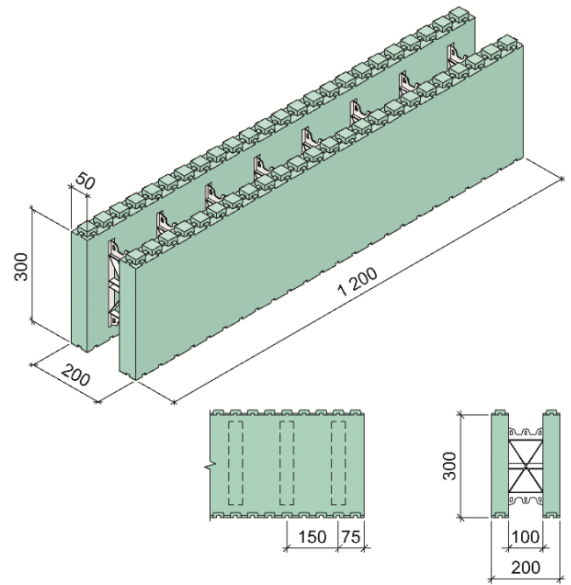

Fig. 4
Thermomur 200 standard blocks are shown in figure 4. The side walls are held together by plastic braces (PE).